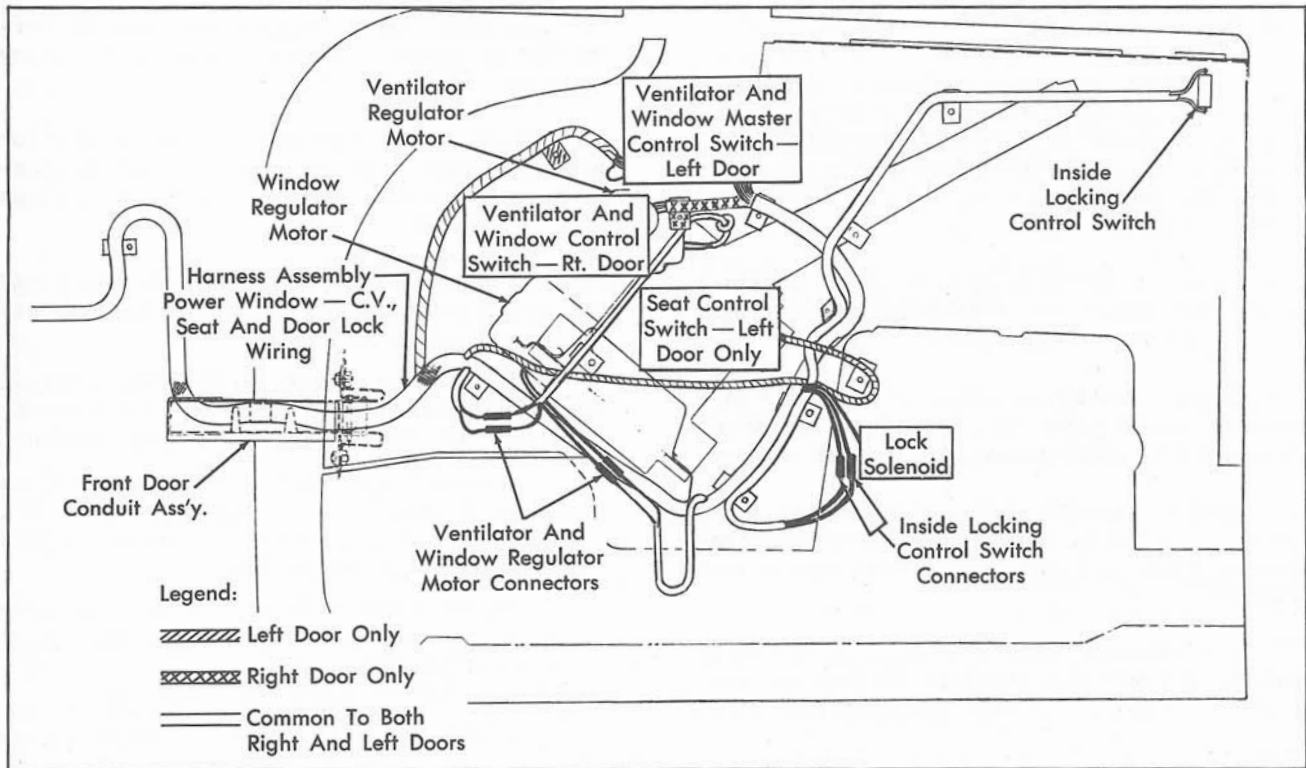

Fig. 17-30 Front Door Wiring Harness Locations
5. Disconnect all wire harness connectors inside door and detach wire harness from clips, Fig. 17-30. Arrange wire harness so door can be readily removed.